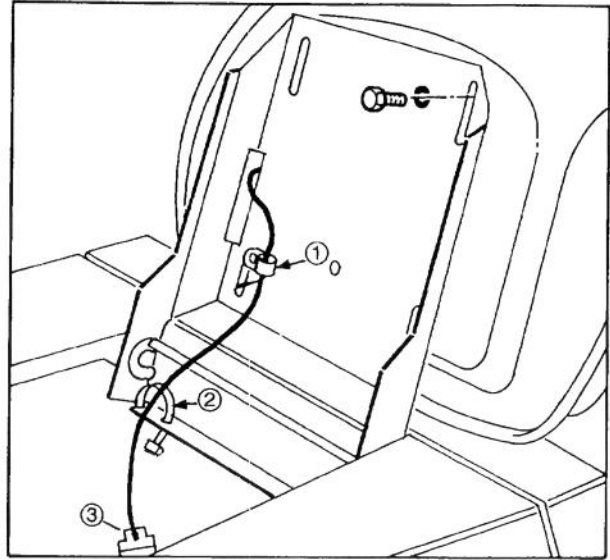

Figure 3
1. Position seat onto seat base, inserting seat switch cable thru slot and aligning mounting holes (Fig.3).
2. Slide wire clamp over seat switch wire (Fig. 3).
3. Using left rear mounting slot in seat base, loosely secure wire clamp and seat to seat base with a capscrew and lockwasher (Fig. 3).
4. Mount seat to seat base with (3) remaining capscrews and lockwashers.